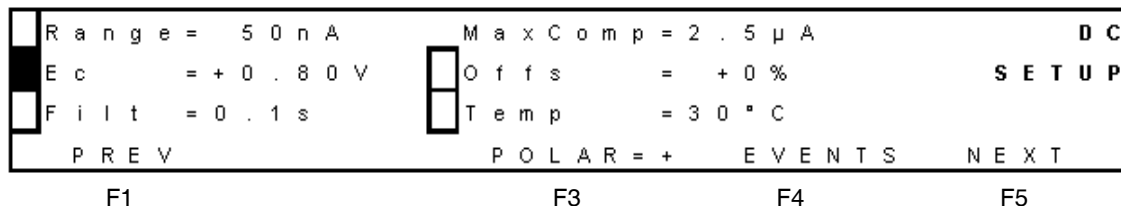

Figure 3-18 DC Setup Screen
1. From the Main screen, select **F2 DC**. The DC Setup screen appears (Figure 3-18).